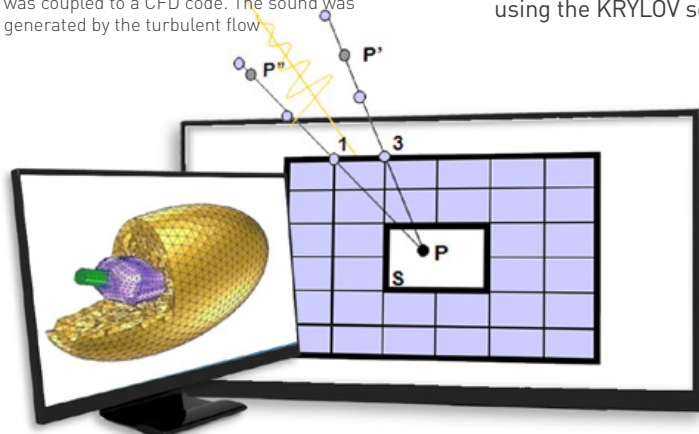

Figure 4
- ▶ conjugated infinite elements for acoustic radiation (see Figure 4);